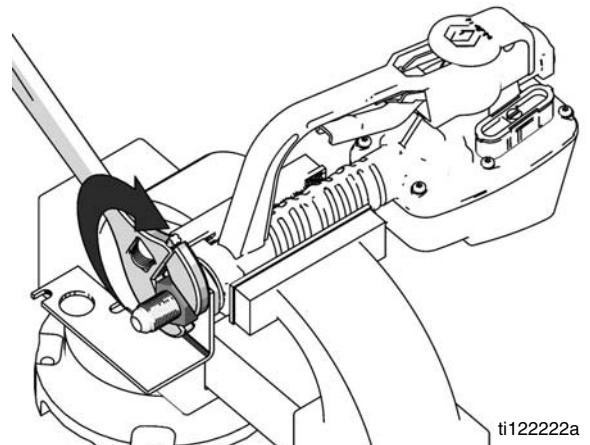

FIG. 9
- d. Return meter to vise. Use a wrench to tighten nut (11) (FIG. 9).